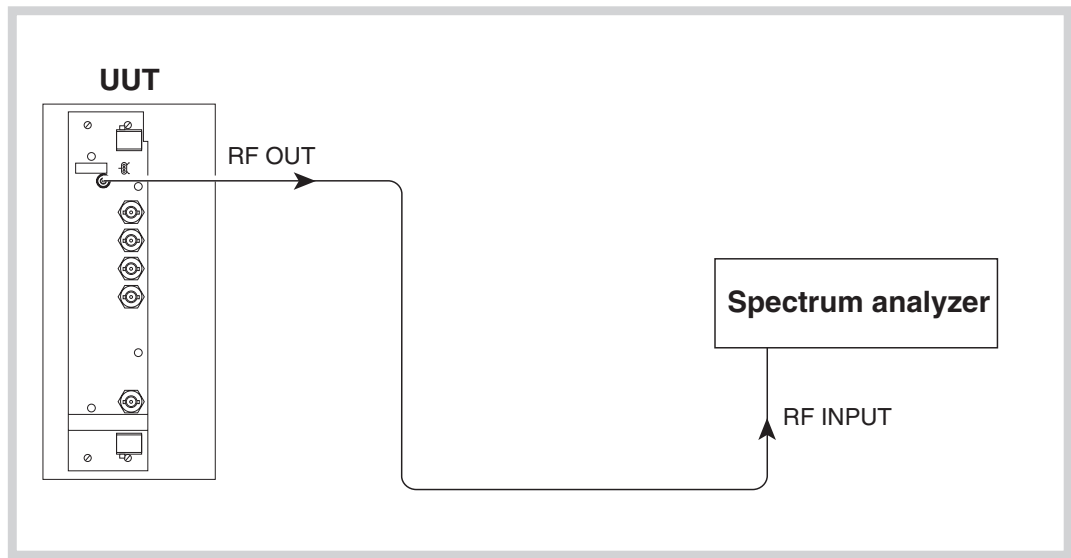

Fig. 5-4 Carrier harmonics and non-harmonics test set-up
- (1) Press CAL on the spectrum analyzer.
- (2) Connect the test equipment as shown in Fig. 5-4.
- (3) On the UUT set: